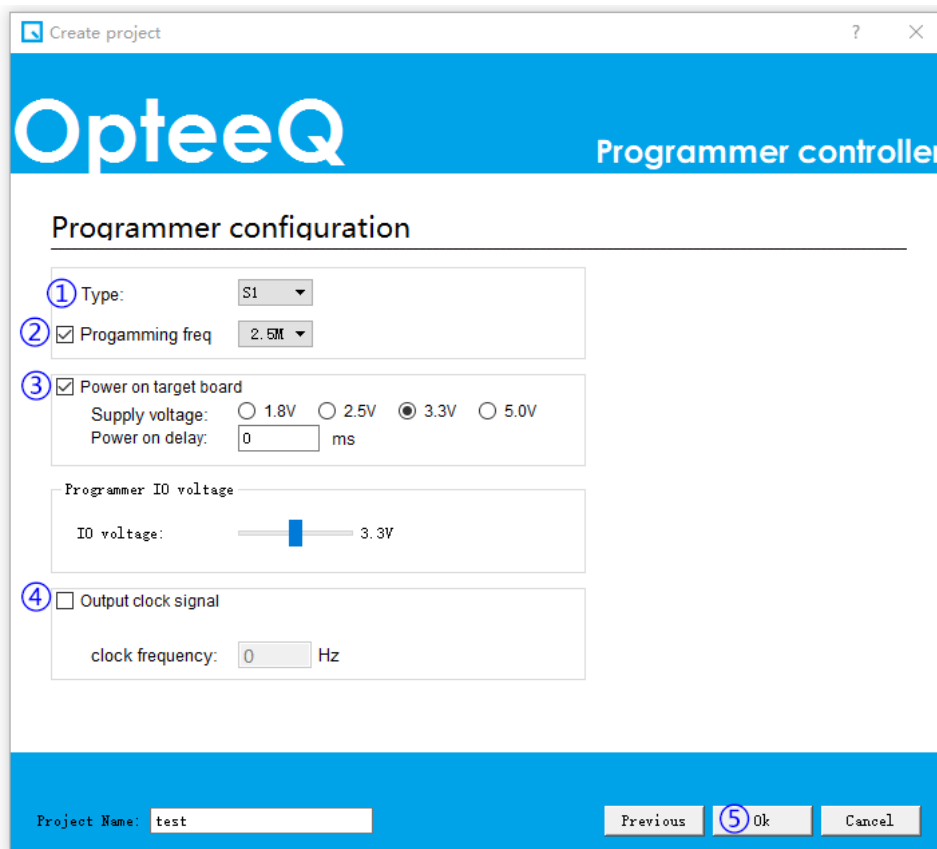

Figure 4.14: Step 4 - Project Creation Interface
4) Step 4: Configure the programmer (as shown in Figure 4.14).
Select the programmer model (as shown in Figure 4.14-①).
Check the programming rate of the programmer (default: 2.5 MHz) (as shown in Figure 4.14-②). Notes: In general, the value set does not exceed 5M as a high value may affect the stability of the signal.
To supply power to the target board, it is needed to check the check box before "Power Supply to the Target Board" (as shown in Figure 4.14-③). Notes: S1 programmer can only supply power to the target board at 3.3V. When the programmer does not supply power to the target board, please do not check the check box before "Power Supply to the Target Board".
The item in Figure 4.14-④ is unchecked as it is not used yet.
Finally, click "OK" (as shown in Figure 4.14-⑤) to start creating a project.